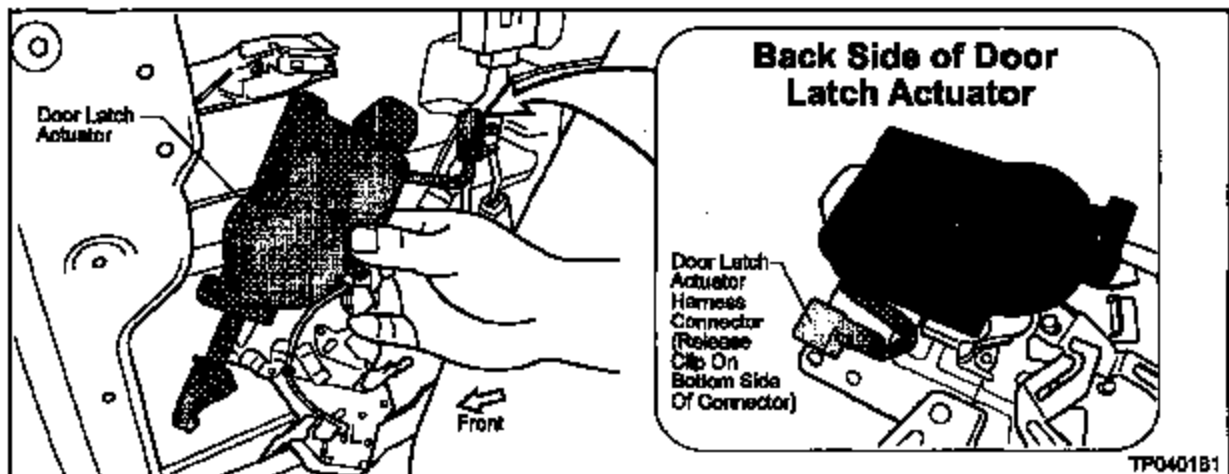

Figure 15
13. Remove the Door Latch Actuator from the Door Latch Assembly (see Figure 15).